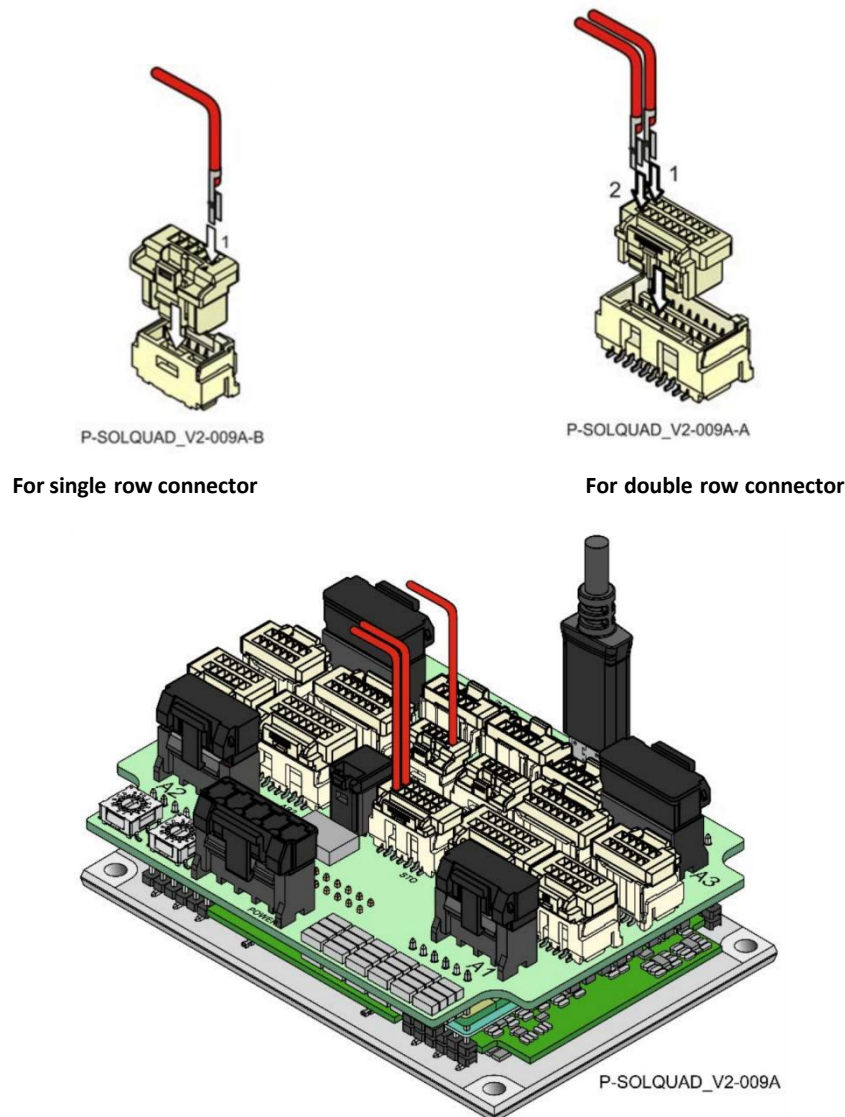

Figure 12: Inserting a wire/pin to the Female CON CLIK-MATE Connector
3. Place the connector on a flat surface, in the orientation as shown in Figure 12. Notice that the rectangular slot has a niche at the bottom of the slot.
4. Insert the wire connector to the slot as shown in Figure 12. Make sure that the connector protrusion is inserted to the bottom of the rectangular slot.
- When inserting the wire connector to a slot in the second row, make sure to orientate the wire pin in the direction shown in Figure 12.